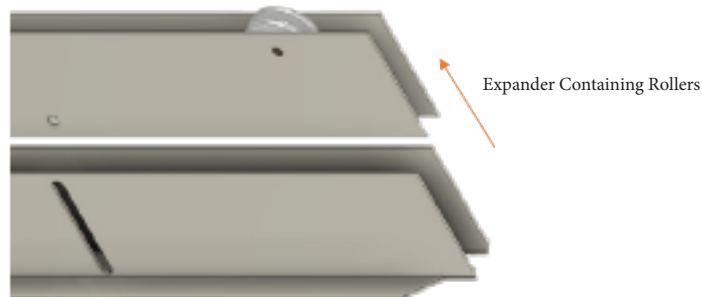
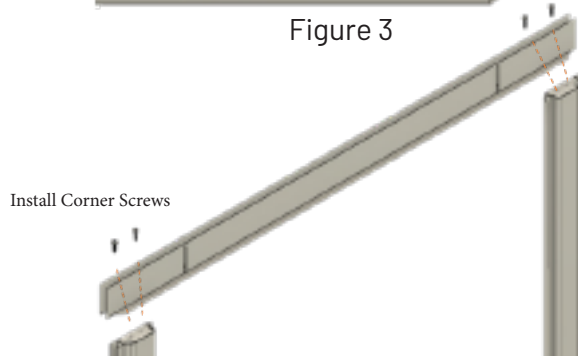

Figure 3
Figure 4
STEP 2.....Remove expanders that are taped inside the short top & bottom rail pieces (FIG. 3) and fasten top/bottom rails to long side pieces (FIG. 4).
2. Place the top/bottom rail against the long side piece which contains the corners in both ends (FIG. 4). Make sure to orient both pieces as shown, aligning the screw holes in the top/bottom piece with the "dimples" in the corner. Using a Power Drill with a 2.5" #2 driver, install (2) No. 8 x 3/4" screws (the LONGER screws provided), through the holes in the top/bottom rails and into the corner dimples in the long piece. Then attach the other end of the top/bottom rail to this long piece similarly. Now attach the other top/bottom rail to the remaining long sides as before.